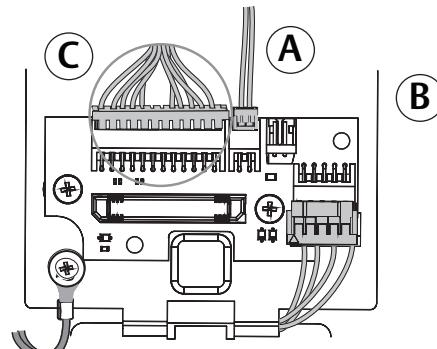
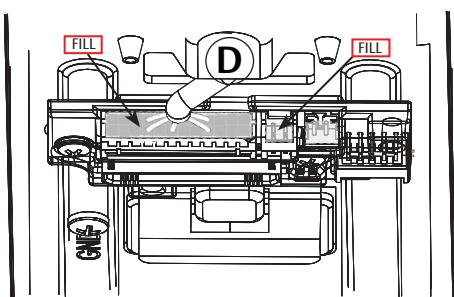

Figure 6-3B
Figure 6-3C
3. Secure the following connectors (Figure 6-3B, Figure 6-3C).
- Secure the mounting assembly while ensuring proper alignment of outside reader and fully tighten the (2) through-bolts on the inside of the door to secure the reader and plate to the door
C. Secure the 24-pin card reader connector. (Figure 6-3B, Figure 6-3C)
D. Ensure all openings on back of secured reader connector are covered completely with grease. (Figure 6-3C)